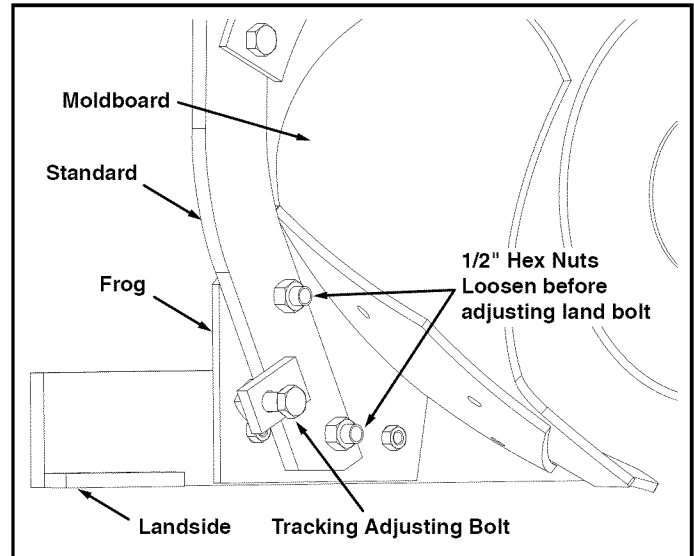

FIGURE 17
**NOTE:** If the plow appears to track to the left while plowing, an adjustment is available to correct this condition. (Refer to figure 17.)
### TRACKING ADJUSTMENT (REFER TO FIGURE 17)